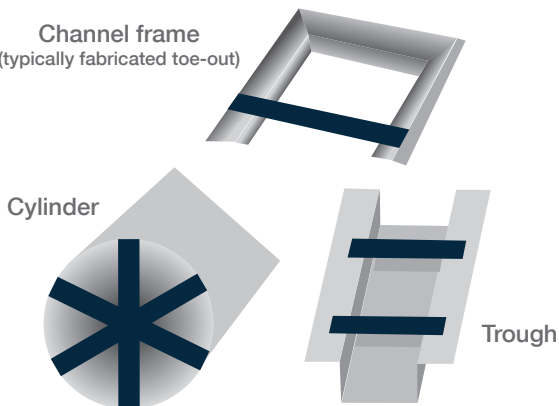

Figure 10: Temporary bracing
- Use temporary bracing or reinforcing on thin-walled and asymmetrical designs (*Figure 10*).